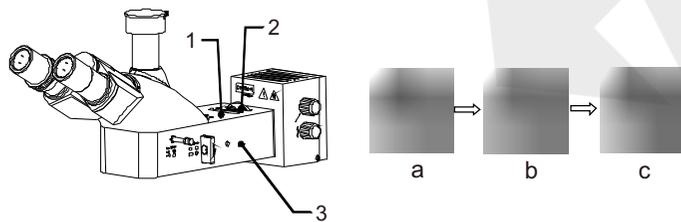

Fig.8
- (1) Turn the 10X plan objective into optical path.
- (2) Open the aperture diaphragm 2, and close the field diaphragm 1, a light spot will be seen in the field of view, as shown in Fig.8-a.
- (3) If the light spot deviates from the center of the field of view, as shown in Fig.8-a, take out the plastic dustproof caps 3 and adjust the centering adjustment screw with two inner hexangular wrenches to make the field diaphragm center superposition with the field of view center, as shown Fig.8-b, then cover the adjusting hole again.
- (4) Open the field diaphragm, so that the observed specimen image fills field, as shown in Fig.8-c.
The center of aperture diaphragm 2 has been calibrated before factory release, so that it has no use for centering. When use low magnification objective, adjust the aperture diaphragm bigger, use high magnification objective, adjust the aperture diaphragm smaller, as shown in Fig.8.